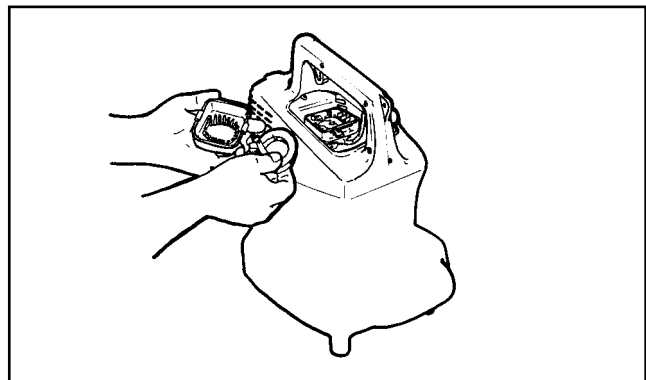

Fig. 24
2. Remove the air filter from the air filter cover assembly (Fig. 24).